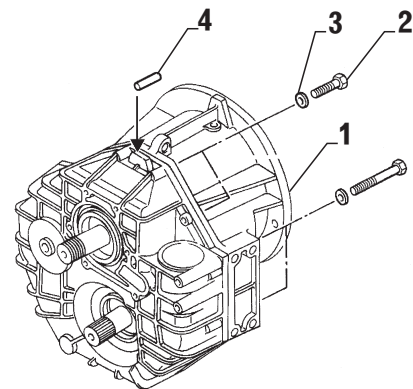

FIG. 5-3
- Mount input housing half (item 1, Fig. 5-3) with all bolts, lock washers (item 2 and 3, Fig. 5-3) and parallel pins (item 4, Fig. 5-3).